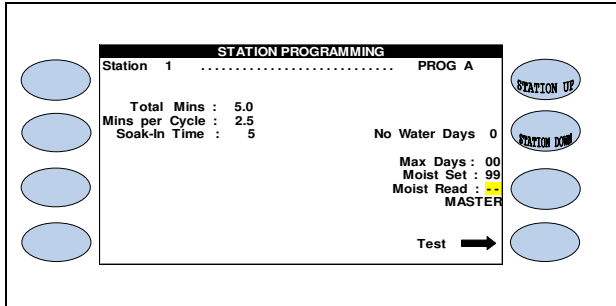

Figure 13
18. If you want to test a different station press the **STATION UP** or **STATION DOWN** keys to the right of the display screen (Figure 13).